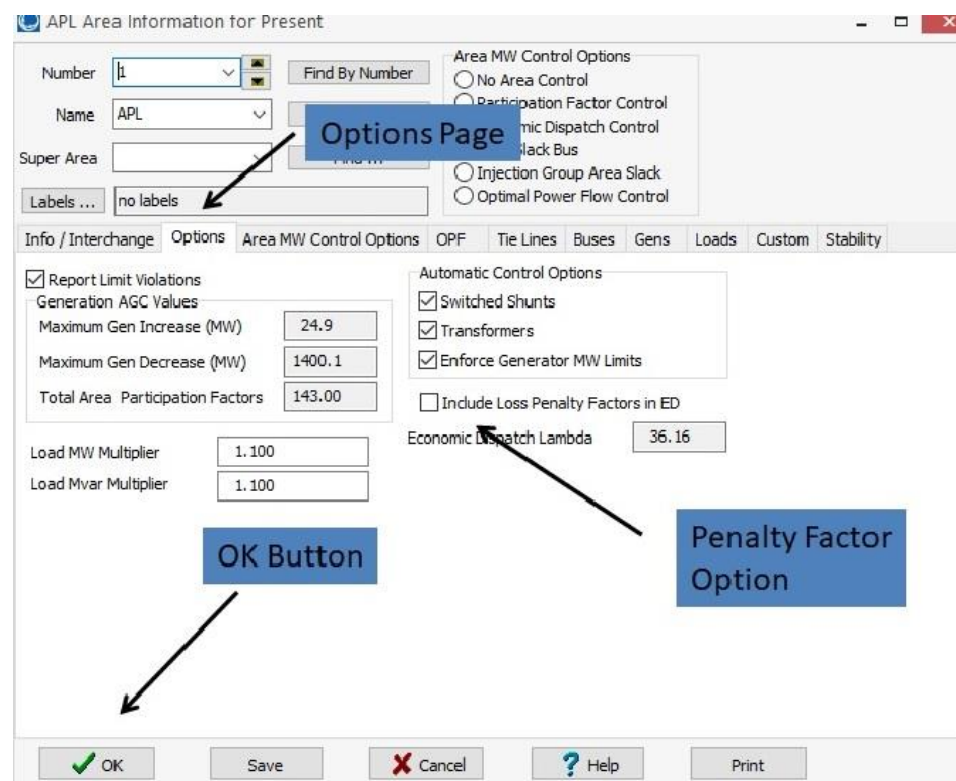

Figure 2: Area Options for Enabling Penalty Factors
6. Next we will repeat this process, except including the generator penalty factors in the ED. To enable this option, right click on the “Include Penalty Factors in ED” field, select the **Area Information Dialog**. Then go to the **Options** page and check the **Include Loss Penalty Factors in ED** option. To save this change and close the dialog, click the **OK** on the button (this dialog is shown in Figure 2).